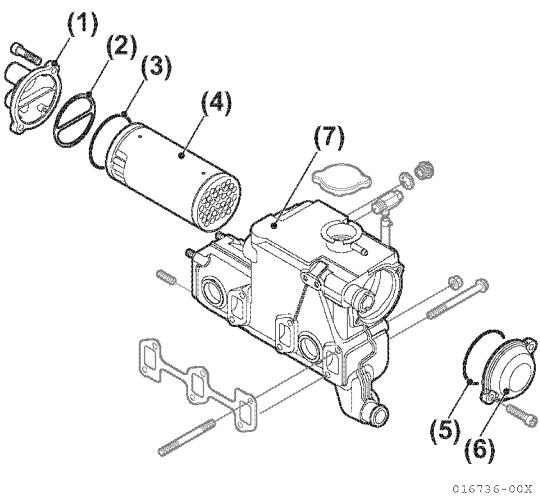
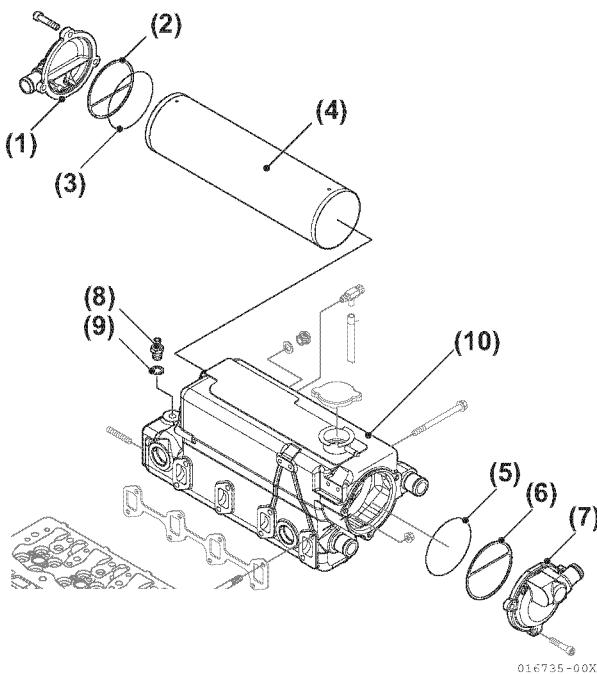

Figure 7-26
Figure 7-27
2. Remove outlet cover (Figure 7-26, (1)), (Figure 7-27, (1)) and gasket (Figure 7-26, (2)), (Figure 7-27, (2)).
3. Remove inlet cover (Figure 7-26, (6)) and (Figure 7-27, (7)) and gasket (Figure 7-26, (5)) and (Figure 7-27, (6)).
4. Pull core from housing (Figure 7-26, (4)) and (Figure 7-27, (4)).
5. Remove O-rings (Figure 7-26, (3), (5)), (Figure 7-27, (3), (5)).
6. Remove plug (Figure 7-27, (8)) and gasket (Figure 7-27, (7)). **NOTICE:** NEVER use caustic soda be used to clean the components. Use paraffin-based engine detergent to clean the cooler element. Thoroughly flush and rinse all components.
8. Install new O-ring (Figure 7-26, (3),(5)), (Figure 7-27, (3),(5)) on cooler core.
9. Install cooler core, gasket and inlet cover (Figure 7-26, (6)), (Figure 7-27, (6), (7)).
10. Install O-ring (Figure 7-26, (3)), (Figure 7-27, (3)) between core and housing (Figure 7-26, (5)), (Figure 7-27, (5)).
11. Install gasket (Figure 7-26, (2), (6)) and outlet cover (Figure 7-26, (1)), (Figure 7-27, (1)).
12. Install new zinc anode (**Figure 7-27, (8)**) and washer (**Figure 7-27, (9)**). See *Drain and Fill Closed Cooling System* on page 7-13.